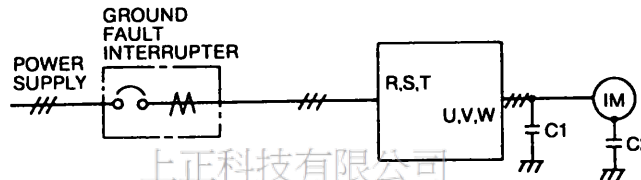

Fig. 6.7 Installation of Ground Fault Interrupter
(10) When applying a ground fault interrupter or relay, it should have good balance characteristics and be connected on the power supply side as shown in Fig. 6.7. Since the output from the VS-626MTII controller contains higher-level harmonic components, a zero-phase current flows through the stray capacitor (C1) of the cable between VS-626MTII controller and motor or through the stray capacitor (C2) of the motor, sometimes resulting in erroneous operation of the ground fault interrupter. Because of this, they must be installed in accordance with the following: